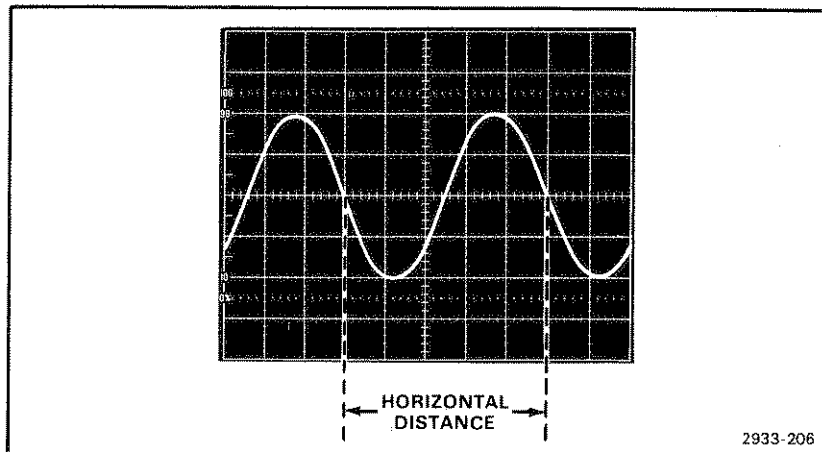

Figure 3-3. Measuring time duration (period) between points on a waveform.
- Set the time-base triggering controls to obtain a stable display. Set the Time/Div switch to the fastest sweep rate that will permit displaying one cycle of the waveform in less than eight divisions (some nonlinearity may occur in the first and last graticule divisions of display). Refer to Figure 3-3.
EXAMPLE: The frequency of the signal shown previously in Figure 3-3, which has a period of 0.5 millisecond, is: